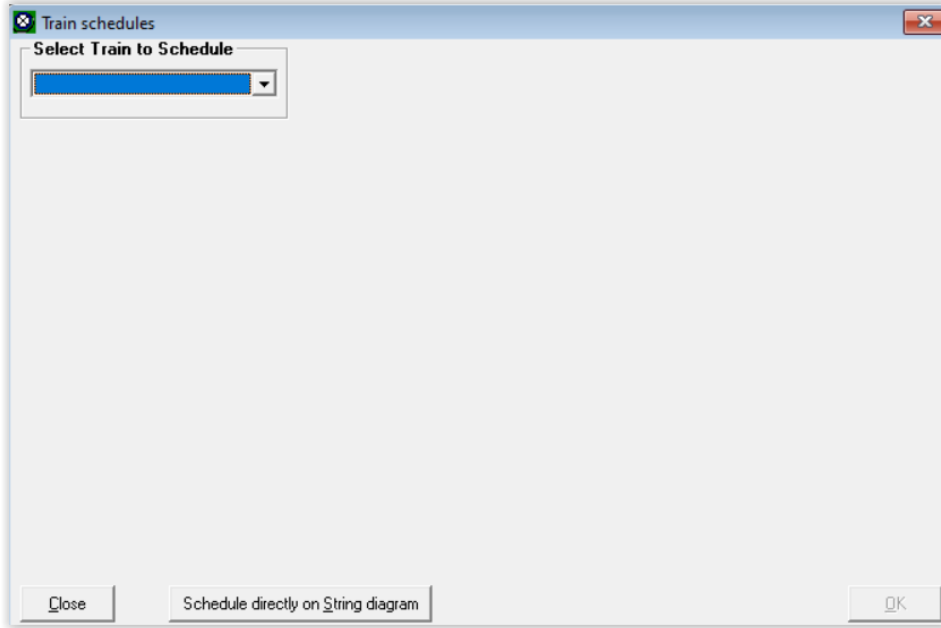

Figure 12-12
Page 12-26 to 44    Delete the entirety of the sections "String Diagram Scheduling", "Timetable Scheduling" and "Deleting a train from the ProTrak Scheduler" and Figures 12-12 through 12-26.
1. On the ProTrak Standard toolbar click on "Scheduling" then select "Train Time Table Schedules" from the dropdown list. A window like the one shown in Figure 12-12 will appear.
13. Once you have entered the schedule as desired, you must click on the "OK" button in the bottom right corner of the "Train schedules" window to make the changes permanent. If you change a time of arrival for example, click on the "Save" button then click on the "X" to close the window, the changes made will not be saved. This is as if you had clicked on the "Save" button but then clicked on the "Train Cancel" button. The same situation applies to the "Save stop" button for changes of departure times. Go ahead and click the "OK" button and you will be returned to the "Train schedules" window (see Figure 12-12).
- a. From the "Train schedules" window (see Figure 12-12) click the "Schedule directly on String diagram" button.